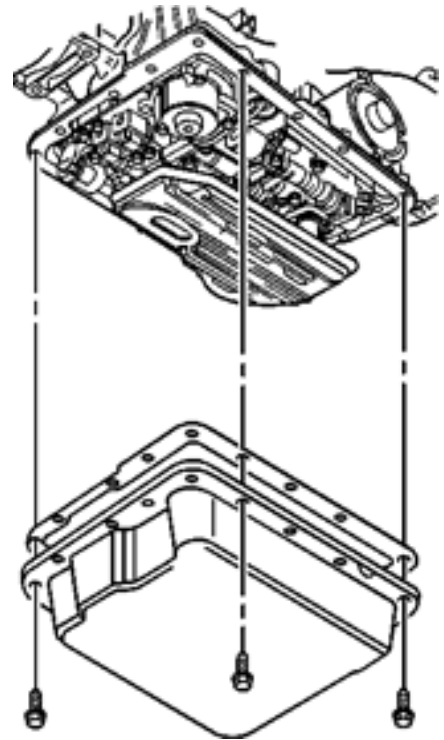

Figure 11
28. Install the oil pan bolts and tighten alternately and evenly to 11Nm (97lbin). **Reference Figure 11.**